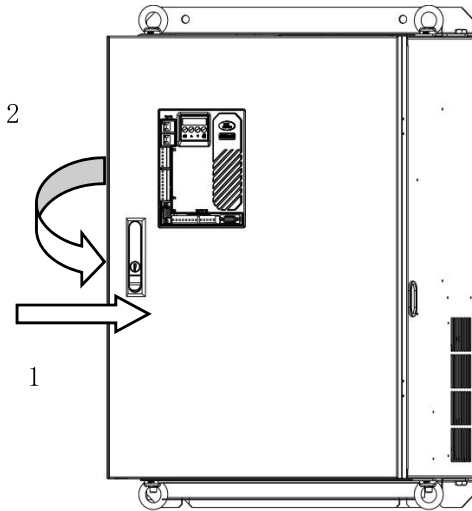

Figure 2-12 Open the door
- ① Press the latch follow the direction 1 in the Figure2-12.
- ② Open the door follow the direction 2.